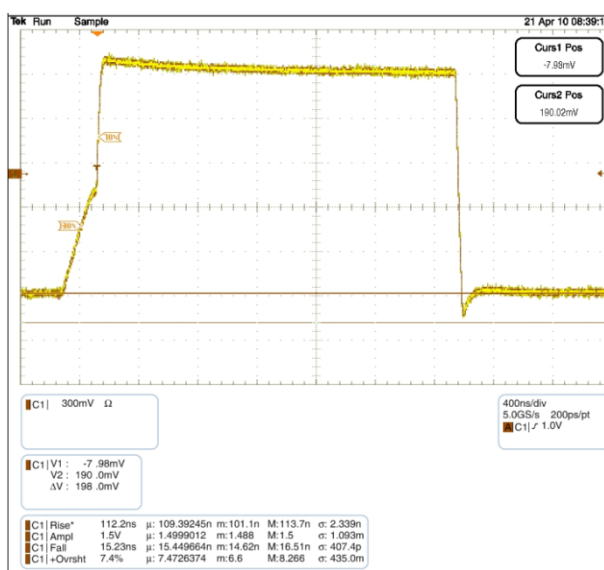

Figure 5. FXMA2102 Waveform C: 600 pF, R_{PU}: 2.2 K
Due to I²C’s open-drain topology, I²C masters and slaves are not push/pull drivers. Logic LOWs are “pulled down” (I_{sink}), while logic HIGHs are “let go” (3–state). For example, when the master lets go of SCL (SCL always comes from the master), the rise time of SCL is largely determined by the RC time constant, where $R = R_{PU}$ and $C =$ the bus capacitance. If the FXMA2102 is attached to the master [on the A port] in this example, and there is a slave on the B port, the Npassgates act as a low resistive short between both ports until either of the port’s $V_{CC}/2$ thresholds are reached. After the RC time constant has reached the $V_{CC}/2$ threshold of either port, the port’s edge detector triggers both dynamic drivers to drive their respective ports in the LOW-to-HIGH (LH) direction, accelerating the rising edge. The resulting rise time resembles the scope shot in Figure 5. Effectively, two
The FXMA2102 dynamic drivers have enough current sourcing capability to drive a 400 pF capacitive bus. This is beneficial for instances when an I²C buffer / repeater is required. The I²C specification stipulates a maximum bus capacitance of 400 pF. If an I²C segment exceeds 400 pF, an I²C buffer / repeater is required to split the segment into two segments, each of which is less than 400 pF. Figure 5 is a scope shot of an FXMA2102 driving a lumped load of 600 pF. Notice the (30% – 70%) rise time is only 112 ns ($R_{PU} = 2.2$ K). This is well below the maximum edge rate of 300 ns. Not only does the FXMA2102 drive 400 pF, but it also provides excellent headroom below the I²C specification maximum edge rate of 300 ns.